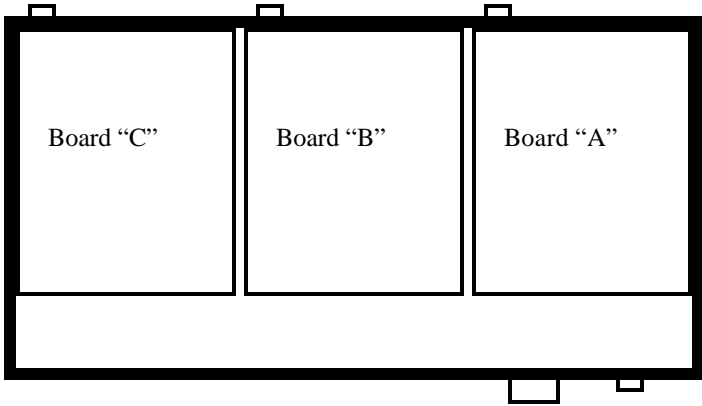

Fig. 1 AFC CHASSIS Top View
3. Locate the cabling in the area where the receiver is to be located. (see Figure 1)